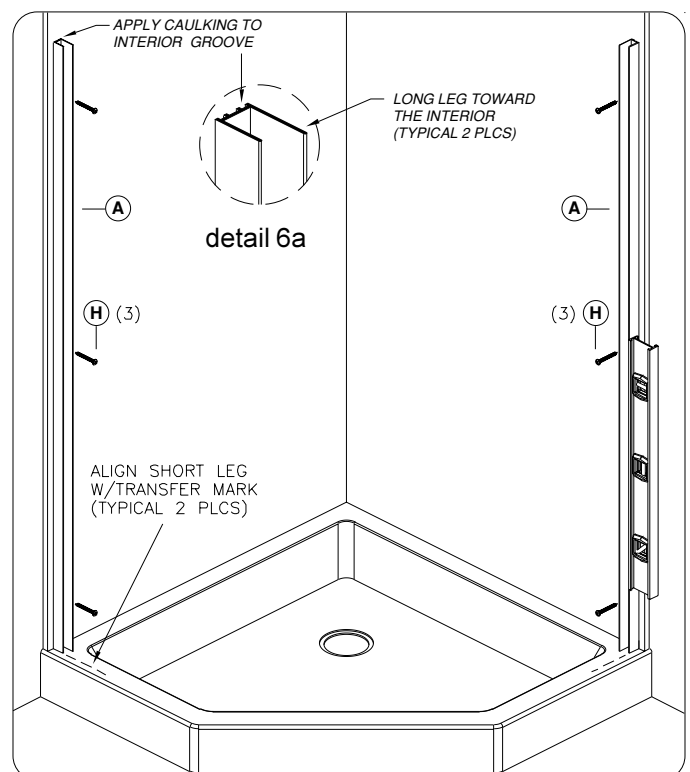

figure 6
With the long leg positioned toward interior of shower unit (see figure 6), place Wall Jamb (A) up against shower walls. Align the outside leg of the Wall Jamb with the "transferred" mark previously marked on the base ledge and wall.
Apply a bead of clear mildew resistant caulking the full length of the caulking groove on each Wall Jamb (see fig.6 - detail 6a). Apply enough to slightly overfill the groove.